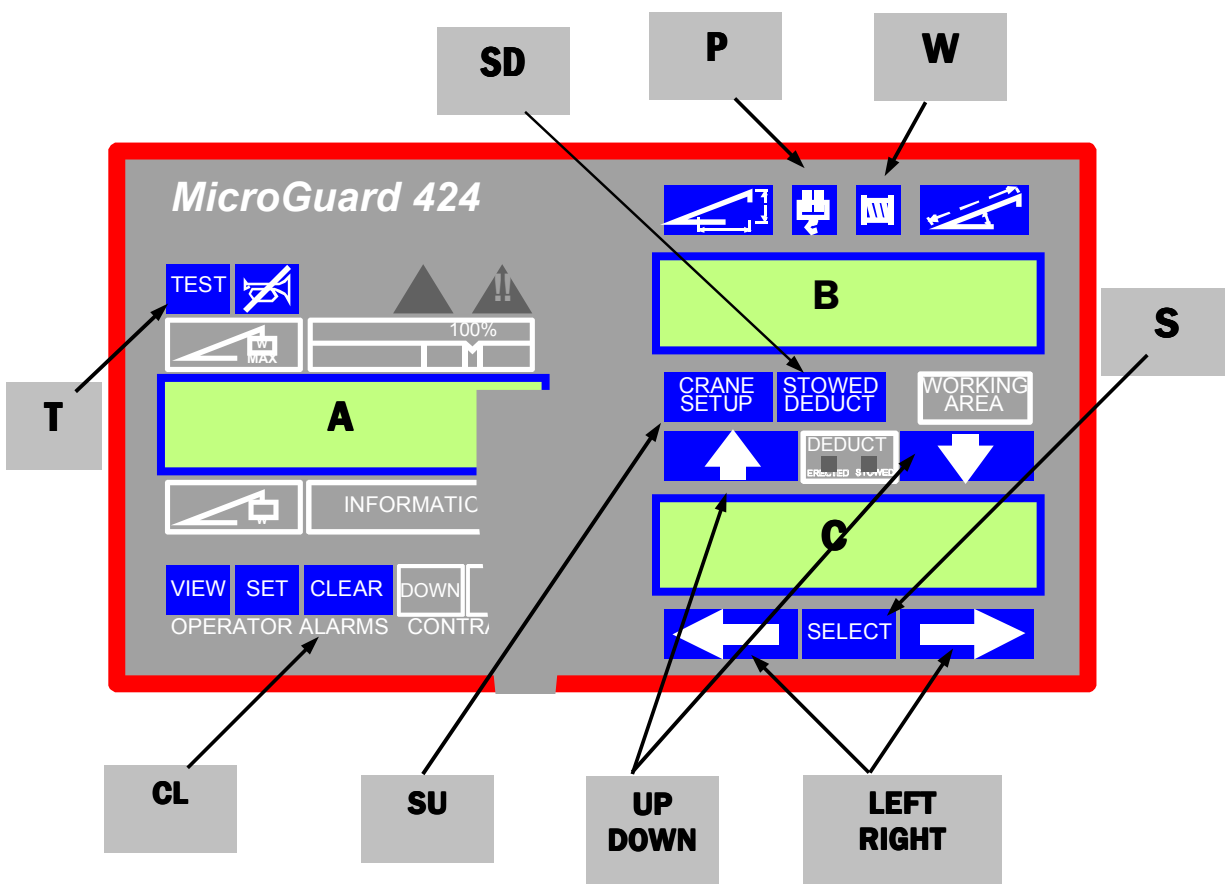

FIGURE 4. USING THE DISPLAY PANEL IN THE CRANE SETUP MODE.
1. SEE FIGURE 4. **PRESS ↑ OR ↓ TO 01 PERSONALITY. PRESS SELECT.**